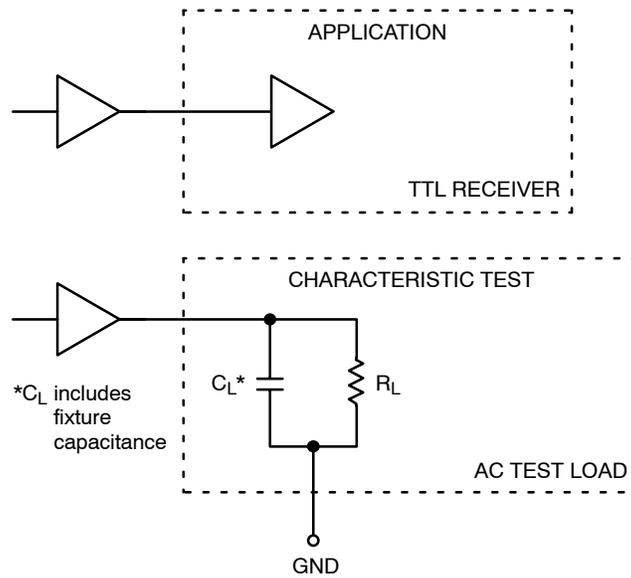

Figure 3. TTL Output Loading Used for Device Evaluation
- Measured with a 750 mV 50% duty-cycle clock source. $R_L = 500\ \Omega$ to GND and $C_L = 20\text{ pF}$ to GND. Refer to Figure 3.